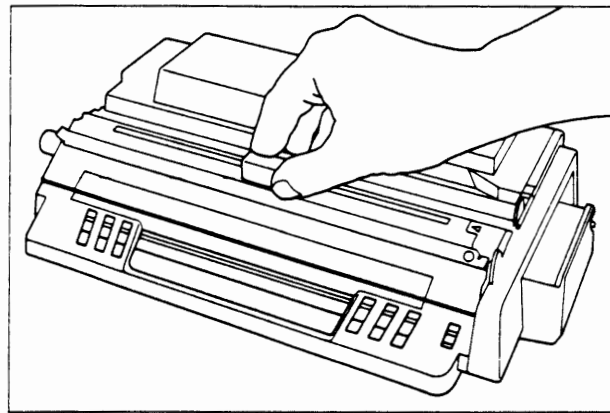

FIGURE 17
2. Insert the wire cleaner into the long slot of the toner cartridge (between the two shutters), and move the cleaner back and forth in the slot (Figure 17).
- 6.35 Fuser Assembly (2 of 2) (Figure 17)